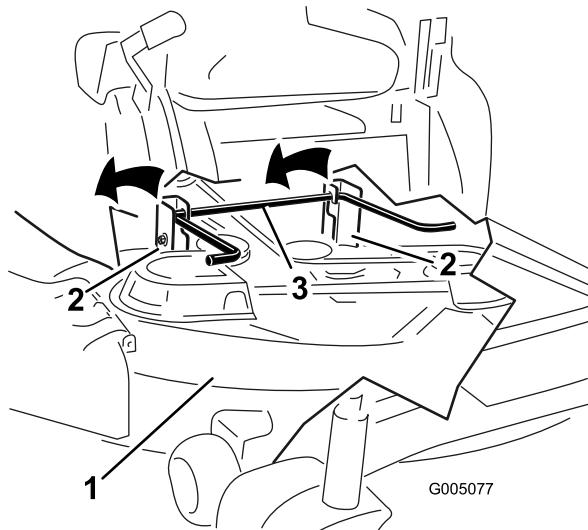

Figure 69
7. Lift the mower deck and hanger brackets clear of the rear lift rod and lower the mower carefully to the ground (Figure 69).
- Lift the rear of the mower deck and guide the hanger brackets over the rear lift rod (Figure 69).